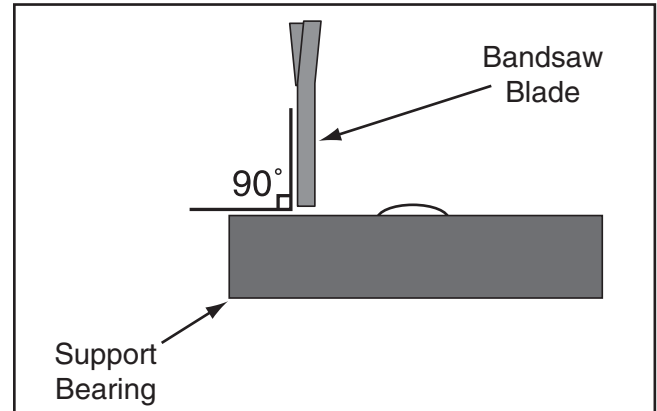

Figure 24. Blade should be perpendicular (90°) to the face of the support bearing.
4. Check that the blade is approximately 90° to the face of the support bearing as illustrated in **Figure 24** (it is not critical that it be precisely 90°—just make sure it is close.)
—If the support bearing is not 90° to the blade, loosen the two guide block assembly cap screws, rotate the blade guide assembly side-to-side, until the blade is 90° to the face of the support bearing as illustrated in **Figure 24**, then tighten the guide block assembly cap screws and re-adjust the blade guides.